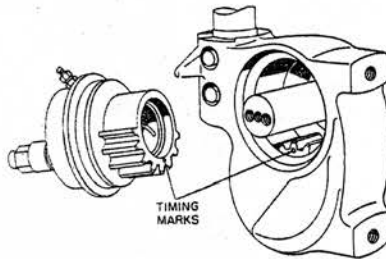
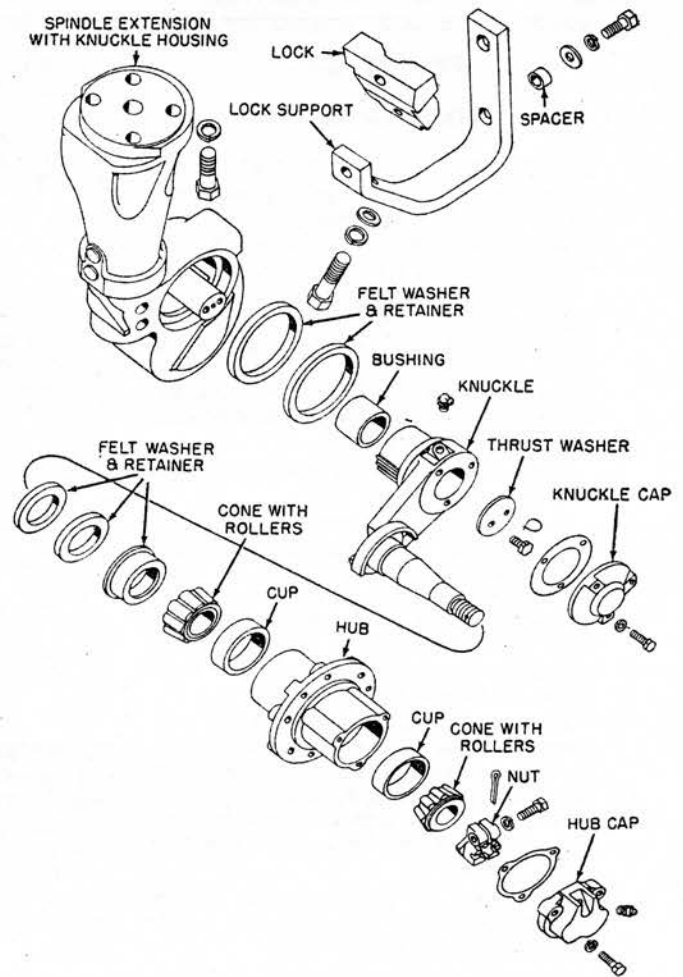

Fig. 49D Roll-O-Matic timing marks on gears should line up when gears are assembled. Models 50, 60
Fig. 49C Exploded view of Model 60 front end Roll-O-Matic assembly as applied to convertible pedestal. Model 50 is similar
**ASSEMBLY**—Referring to Fig. 49C, install new felt washers, soaked in light engine oil. Install one knuckle on shaft in housing so that wheel spindle extends behind vertical steering spindle. Install thrust washer and attaching cap screws. With timing marks lined up, Fig. 49D, install second knuckle assembly. Install thrust washer and cap screws. Wire heads of cap screws together. Install both gaskets and caps.